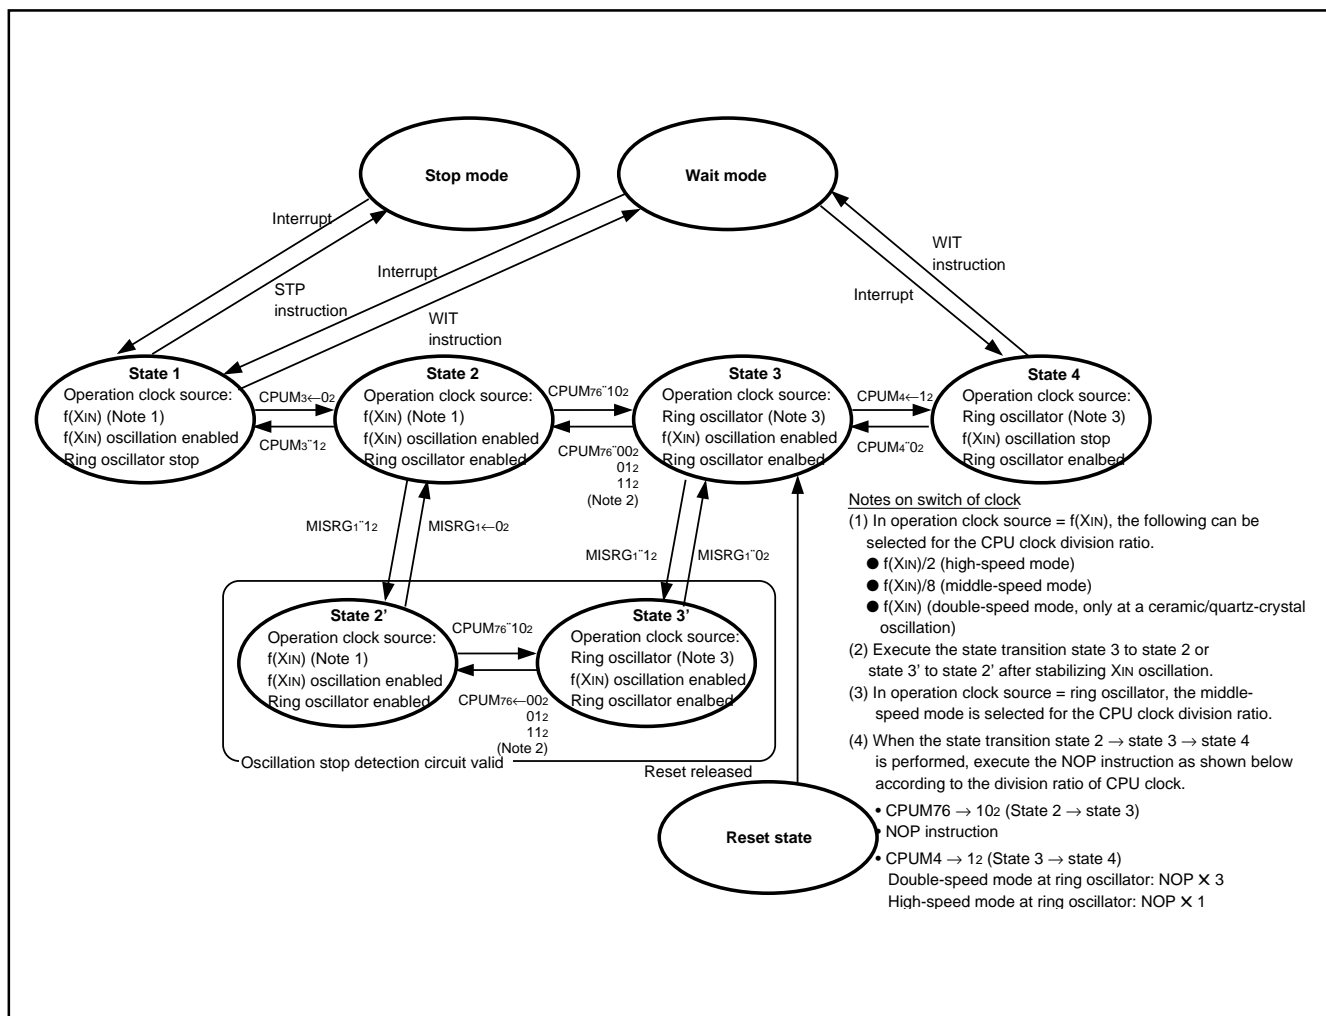

Fig. 46 State transition
- The state transition shown in Fig. 46 can be performed by setting the clock division ratio selection bits (bits 7 and 6), XIN oscillation control bit (bit 4), ring oscillator oscillation control bit (bit 3) of CPU mode register. Be careful of notes on use in Fig. 46.
Figure 46 shows the state transition.